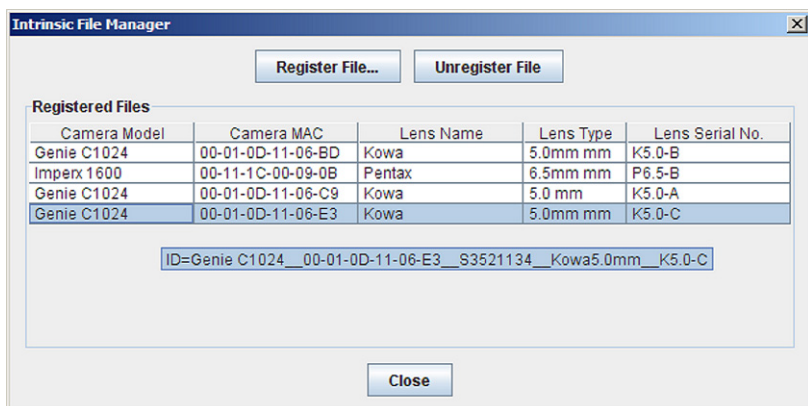

Figure 3-5 Intrinsic File Manager dialog box
**Open Intrinsic File Manager:** Used to register/unregister intrinsic files for a camera (Figure 3-5). An intrinsic file contains intrinsic characteristics of the camera-lens combination, such as lens distortion, image center, and so on. The camera calibration process defines the extrinsic parameters of a camera, such as position and orientation. You must register an intrinsic file for the camera you wish to use (provided with the camera), before adding the camera to the active camera list. When a camera has intrinsic files registered for it, the registered lenses appear in the Lens dropdown field on the Active Cameras table. See Figure 3-5.